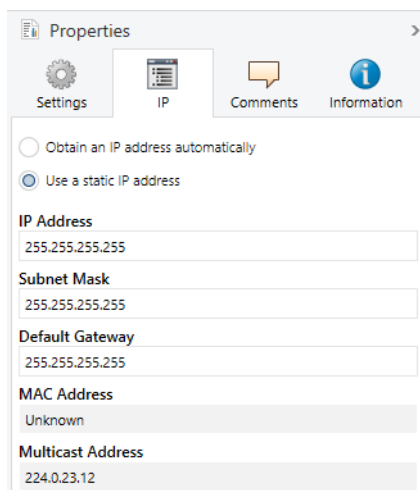

Figure 21: IP settings
3. You will find the available selection options in figure 21 and Table 11 “Settings for manual IP address entry or for receiving automatically”, p. 32.